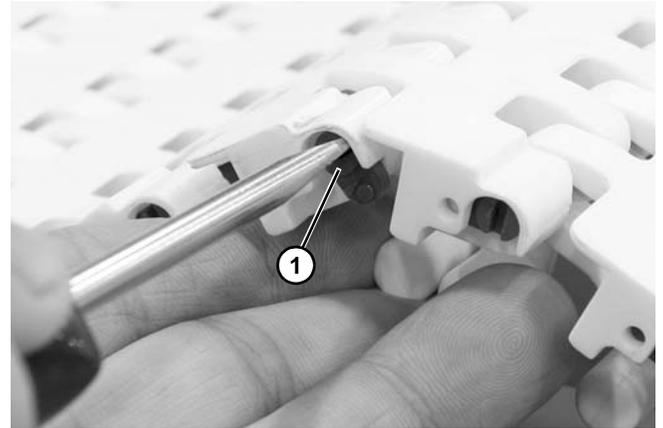

Figure 28
3. Insert a flat blade screwdriver into the slot on the rod head (Figure 28, item 1) and rotate the rod head counterclockwise to unlock.